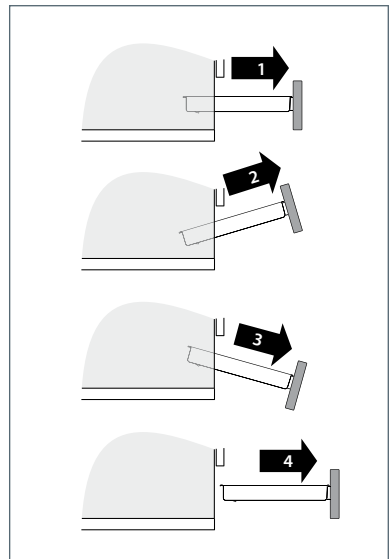

Fig.66 Removing the drawer
- To remove the drawer, proceed as per Fig. 66.